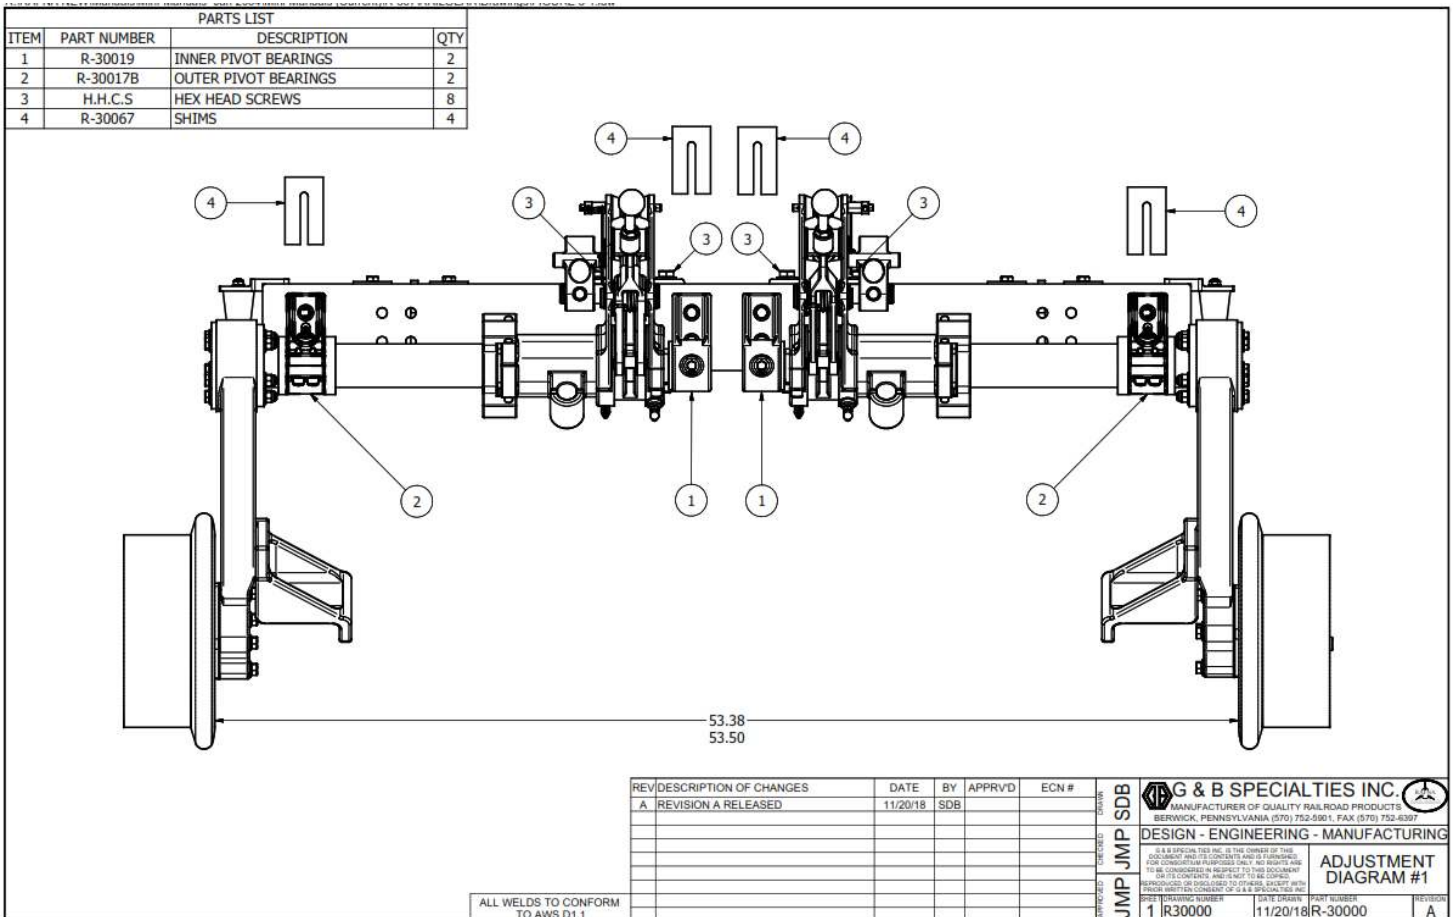

Figure 4-8: Guide Wheel Unit
8. See Figure 4-8. If the vehicle pulls noticeable to the right when traveling forward, add a shim (5) (part no. R-30067) behind the right front outer bearing. Do not use more than two shims on any pivot bearing during the original application of the guide wheel units or three shims on any pivot bearing during field inspection and adjustment.
9. If the vehicle pulls noticeable to the left when traveling forward, add a shim (5) (part no. R-30067) behind the left front outer bearing. Do not use more than two shims on any pivot bearing during the original application of the guide wheel units or three shims on any pivot bearing during field inspection and adjustment.